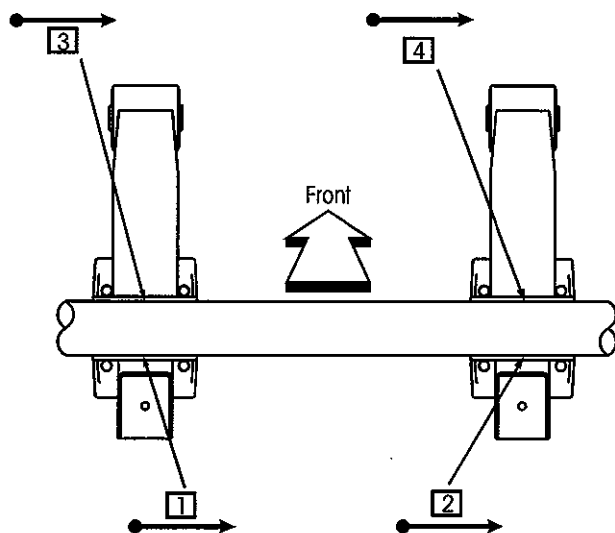

Figure 6: *Root pass sequence*
1. Beginning on the rear side of the axle/seat connection, place **four single root pass welds**, Figure 6.